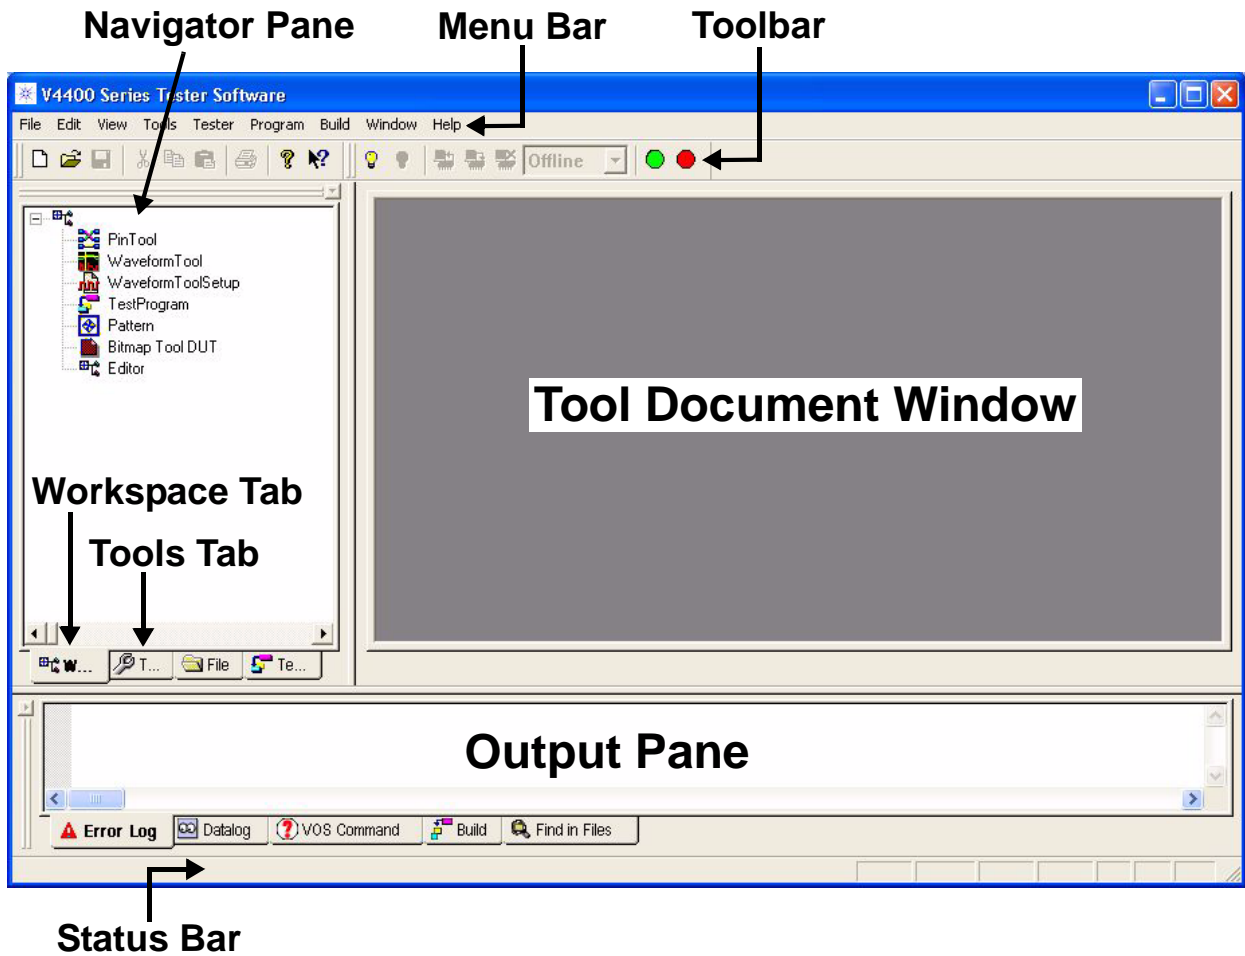

Figure 6-51. V4400 Series Tester Software IDE Main Window
- 1 Selecting  > All Programs > Versatest Test System Software > Integrated Development Environment displays the default V4400 Series Tester Software main window that contains the Integrated Development Environment or IDE (similar to Figure 6-51). The Menu bar and Toolbar are context sensitive and change for the selected active tool or document. The menus and